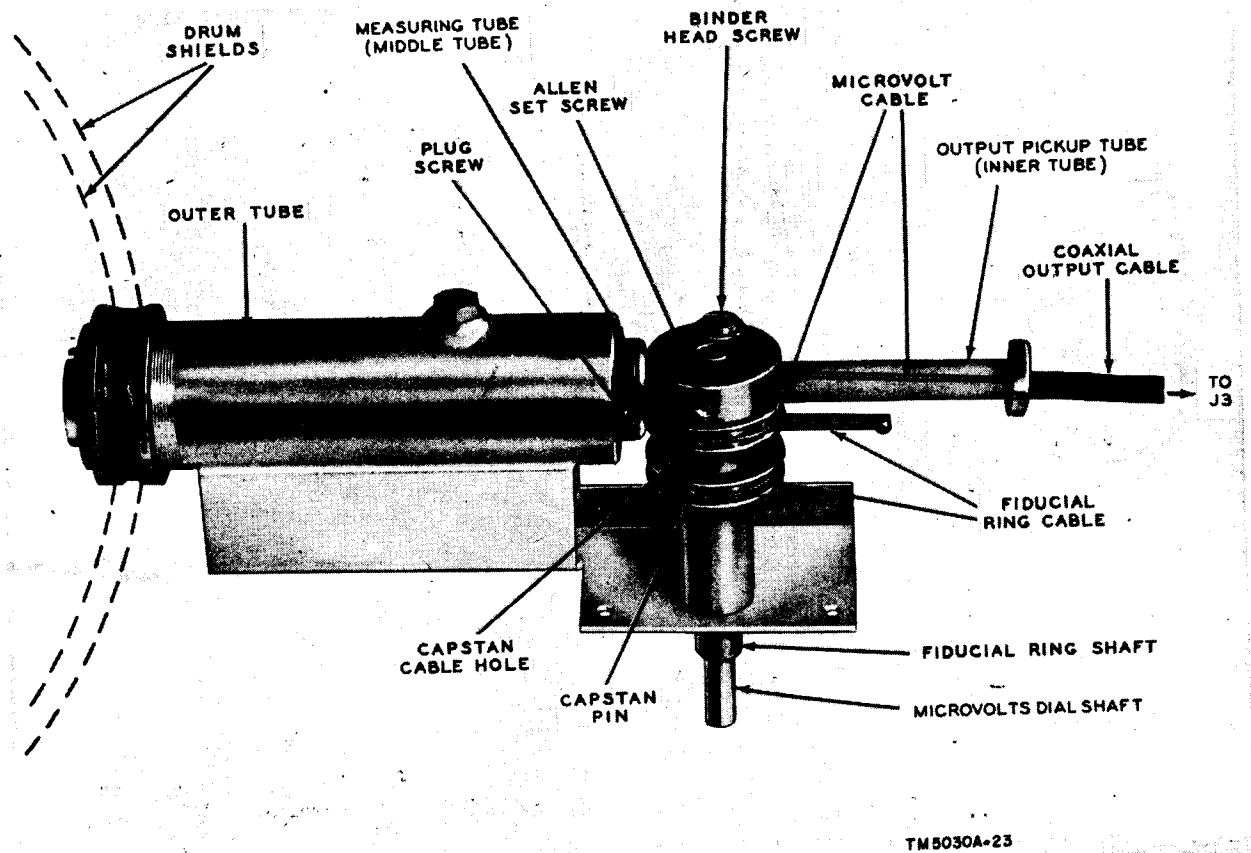
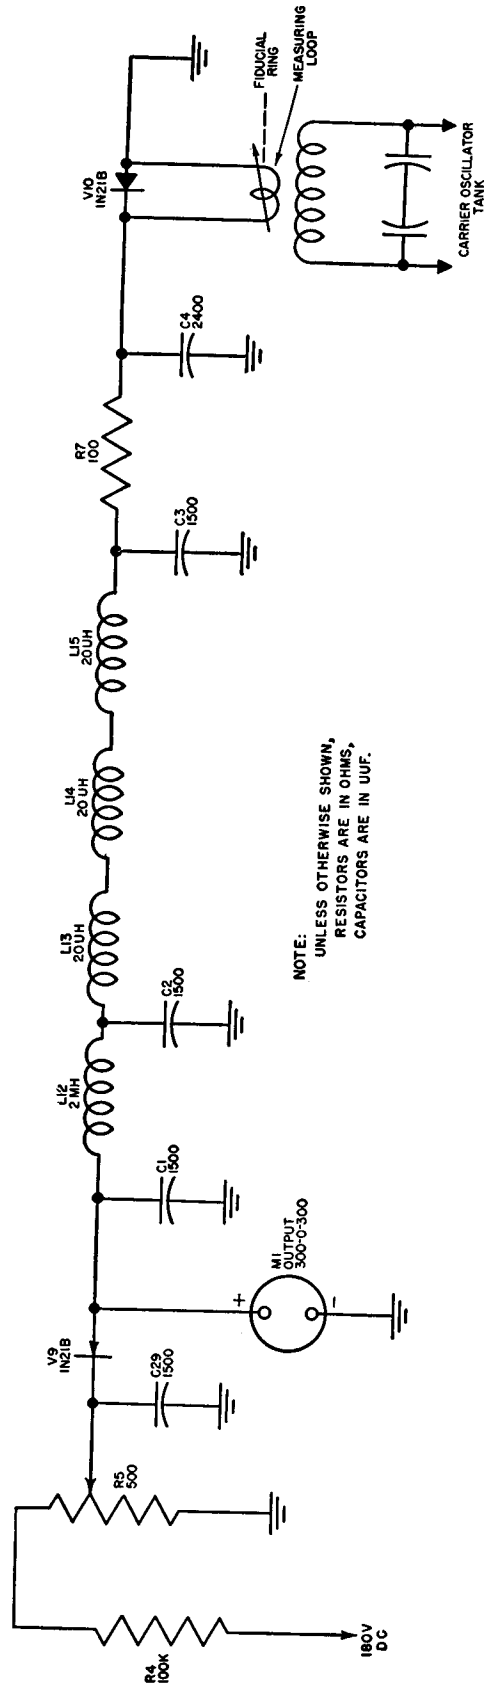

Figure 14. Piston attenuator.
Figure 15. Output metering schematic.
a. The variable piston-type attenuator used to couple the oscillator output to CARRIER OUTPUT (fig. 14) jack is of the mutual inductance type. It consists of three concentric metal tubes and a length of coaxial cable that runs down the center tube. The outer tube is fixed in position and is grounded. It serves as a guide within which the other tubes are free to move axially. The middle tube carries the measuring pickup loop (fig. 15) and measuring crystal rectifier V10. The middle tube is driven by the fiducial ring (fig. 14) through a mechanical linkage (special wire cable). The inner tube carries the output pickup loop to